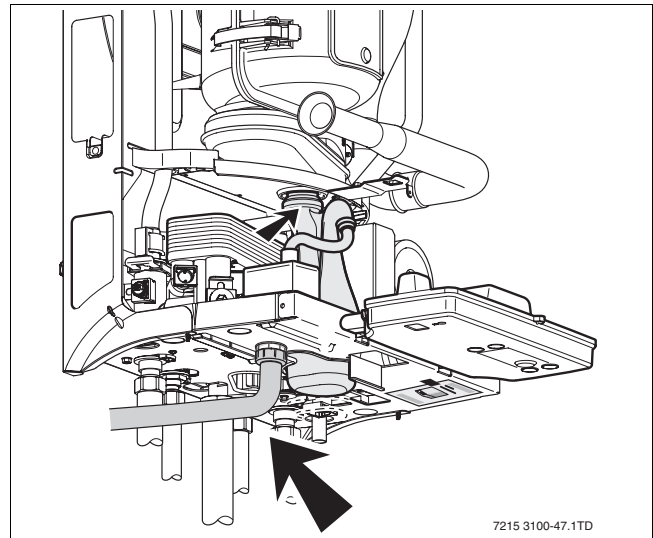
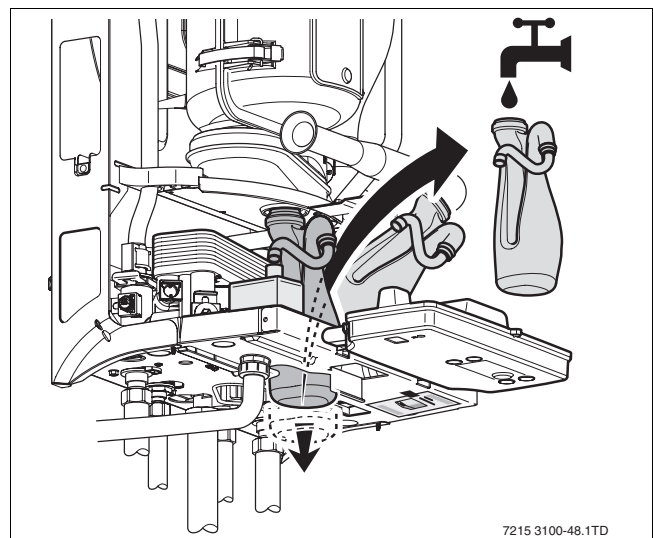

Fig. 47 Disconnect hose from condensate trap
Fig. 48 Remove the condensate trap and fill with water
- Remove the condensate trap and fill with water (→ fig. 47 and fig. 48).